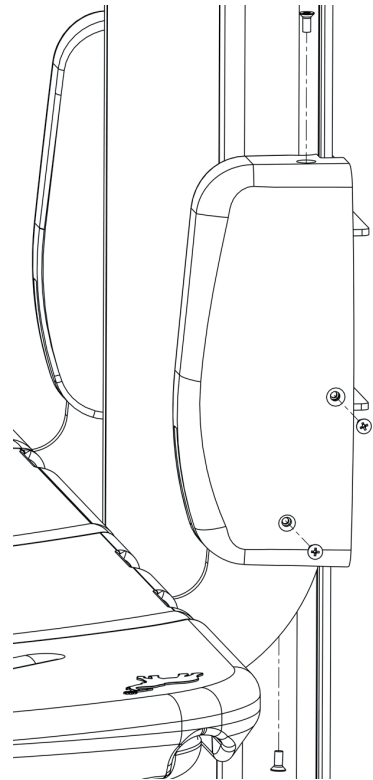

Fig 12.9c
- Fit the remaining three M5 x 8mm screws as shown in Fig 12.9c.